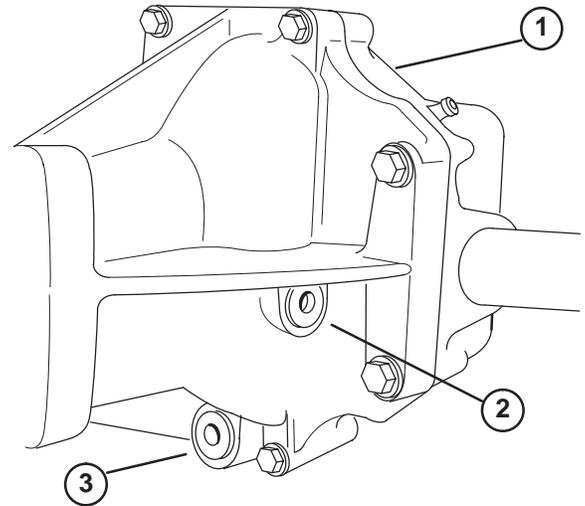

Figure 54
2. Remove drain plug (Fig. 54) from side of reservoir and let hydraulic fluid flow into drain pan.